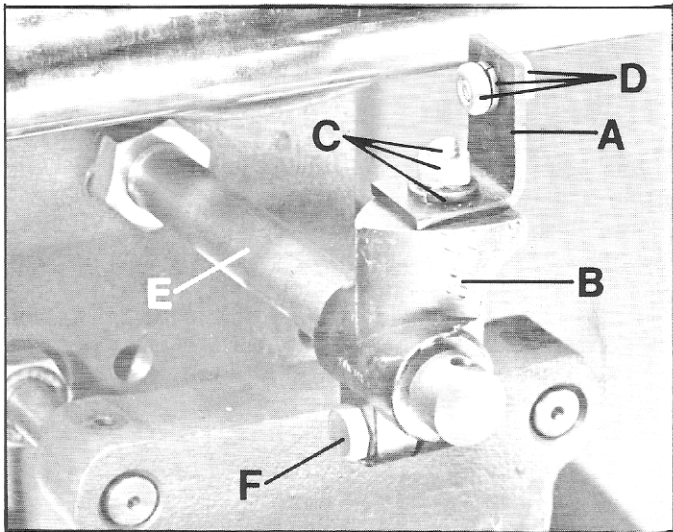

Fig. 21
4. Assemble bracket (A) Fig. 21, to bracket (B) using the screw, nut and lockwasher (C). Assemble the screw, nut and lockwasher (D) to bracket (A) as shown.
5. Place bracket (B) Fig. 21, on rod (E) as shown, and fasten using the screw and nut (F).